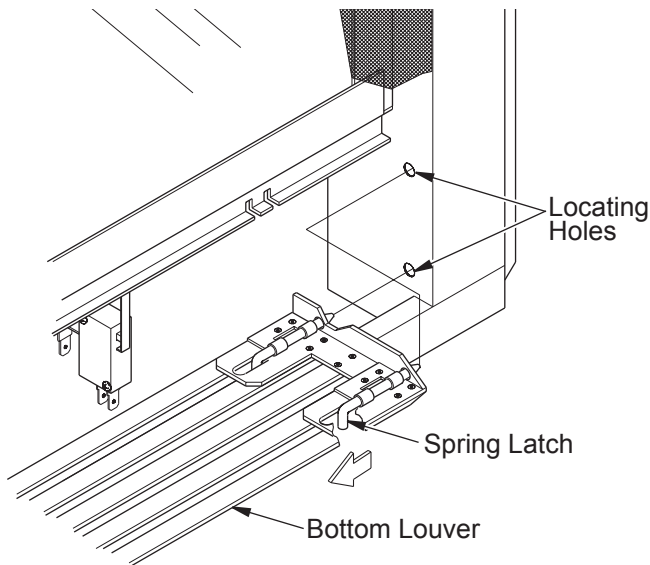

Figure 1 - Removing Louvers
1. Remove existing top and bottom louvers by simultaneously pulling both top end spring latches towards center until disengaged from locating holes (see Figure 1). Discard louvers.